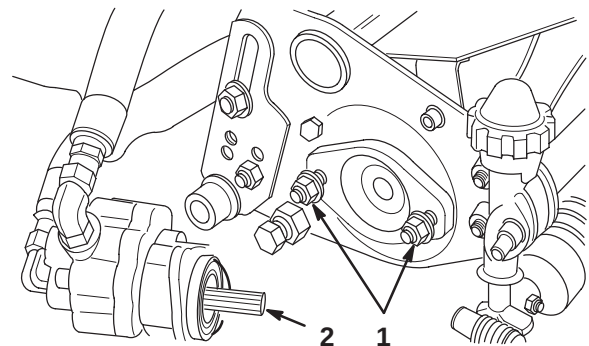

Figure 9
3. Assemble the mount nuts for the reel drive motor to each cutting unit. Leave approximately 1/2 in. (13 mm) of threads exposed on each mount stud (Fig. 9).
4. Remove the protective covers from the cutting units and the reel drive motor shafts. Coat the spline shaft of the motor with clean grease and install the motor by rotating the motor clockwise so the motor flanges clear the studs. Rotate the motor counterclockwise until the flanges are encircling the studs and tighten the mounting nuts (Fig. 9).